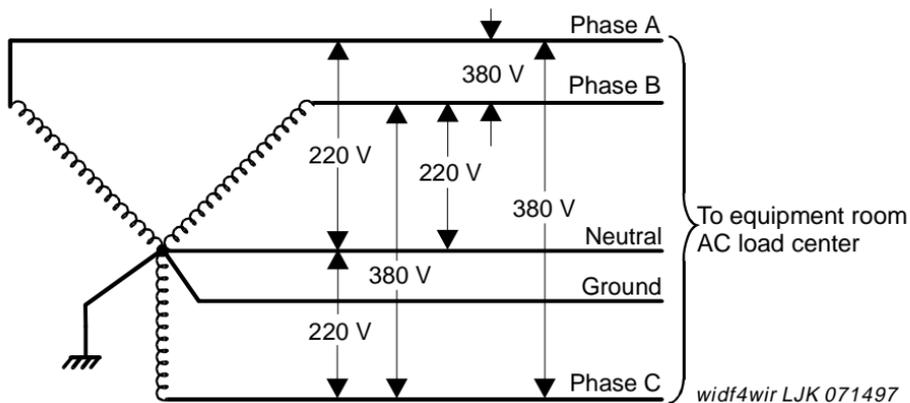

Figure 18. International, Three Phase, 220/380 VAC, 50-Hz Source
- International 5-wire, Y, 220/380 VAC. See Figure 18.